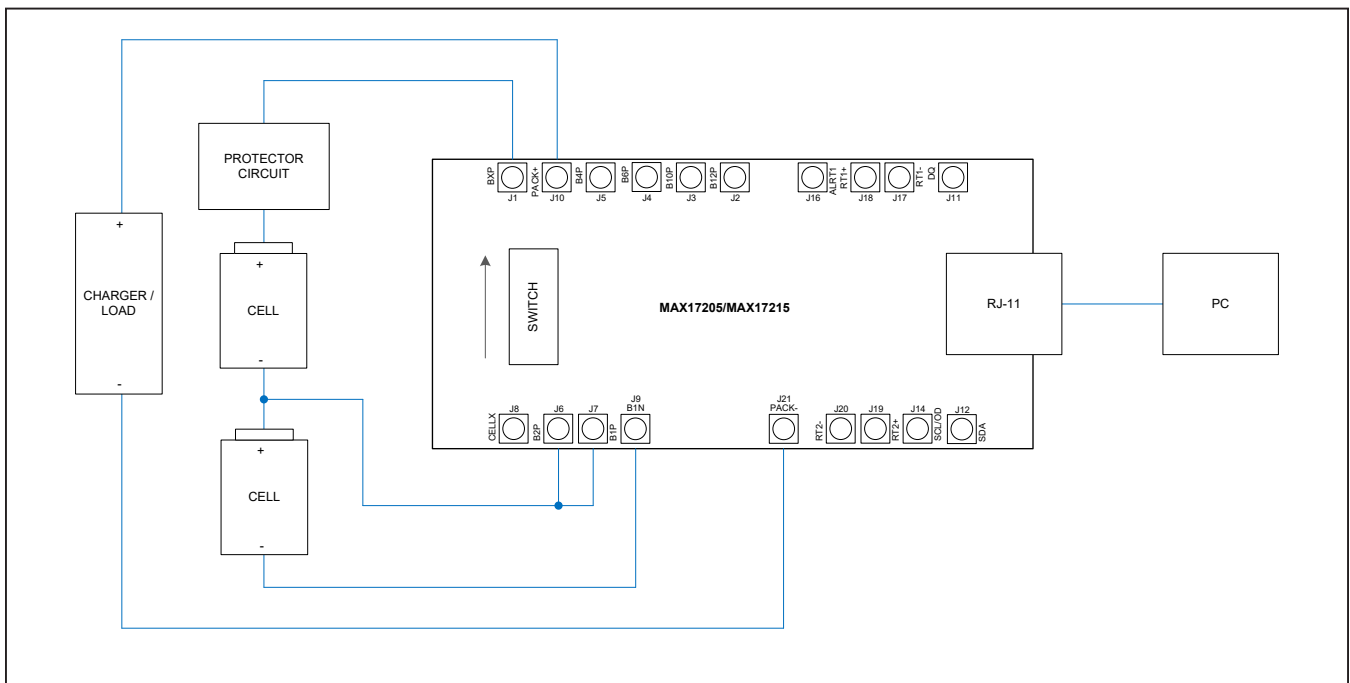

Figure 1. MAX17205/MAX17215 Board Connections for 2S Cell Stacks
- 6) Make connections to the EV kit board based on the cell pack configuration as shown in the following figures. The load or charger circuit can be connected at this time as well. Figure 1 shows the connections for a 2S cell pack with a high-side protector. The lower cell connects between the B1N and B1P/B2P pads and the upper cell connects between the B1P/B2P pads and the BxP pad. The charger/load connects between the PACK and PACK+ pads. Note B1P and B2P should always be connected together in this configuration.